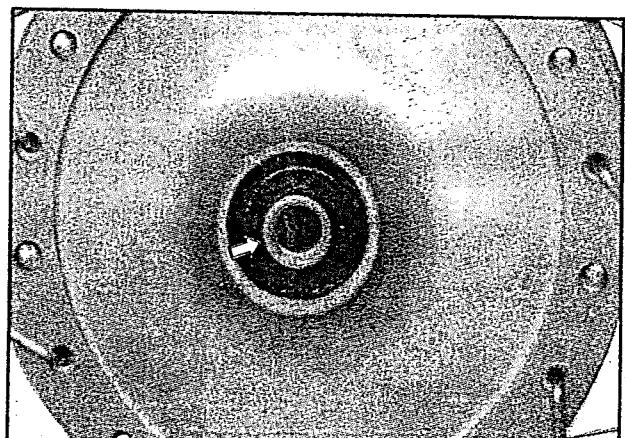

Fig 6.3
- Remove the spacer and oil seal (fig 6.3)